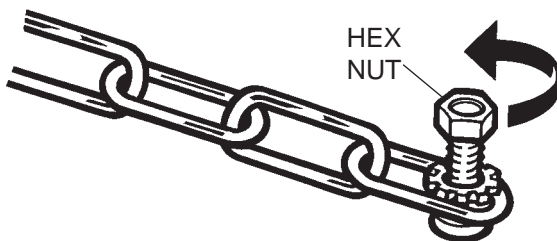

Figure 5 – loosening the hex nut
1. Loosen the hex nut at the unattached end of the safety chain, until it is flush with the screw end. Do not remove it completely. (Figure 5).